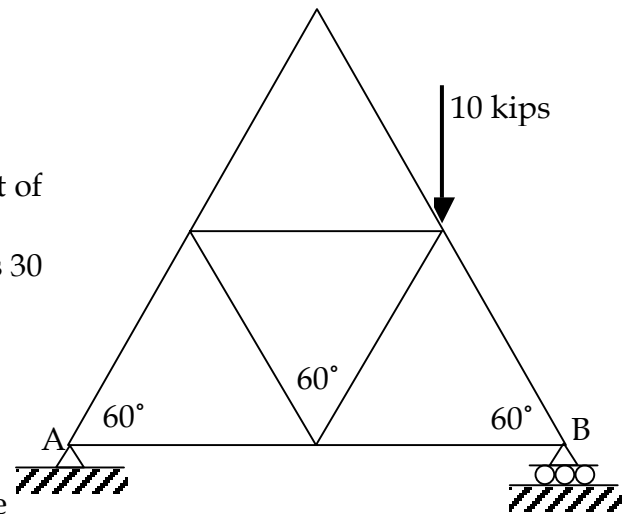

Figure 3.
3) The truss illustrated in Figure 3 is composed entirely of 60 degree angles. Neglect the self-weight of the truss and make the usual assumptions for truss analysis. The total span of the truss (distance AB) is 30 feet.